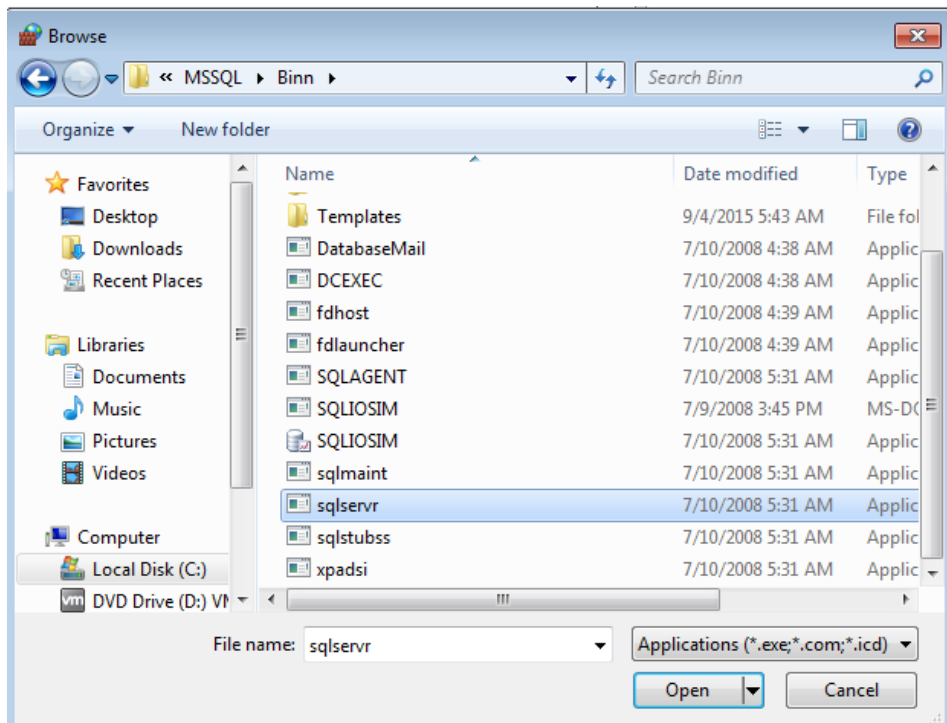

Fig.1.26 Browse
(11) Double-click “sqlservr” (see Fig.1.26).